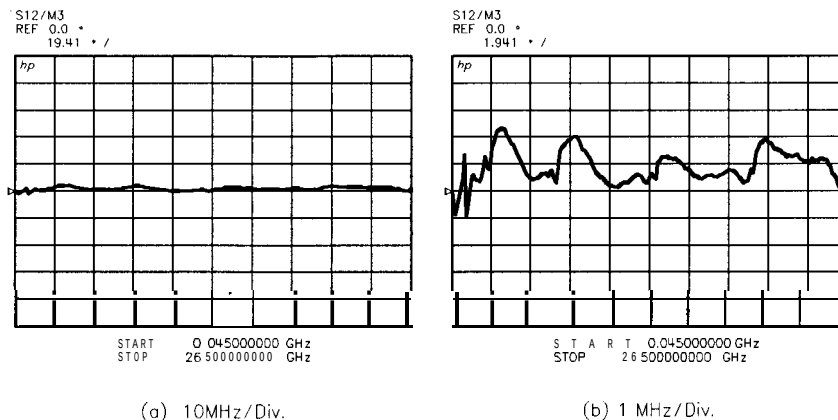

Figure 2-4. Bandswitch Transition Location
22. Figure 2-4 shows a typical response at two scale sensitivities. Locate the portion of the trace farthest from the center reference graticule. This is the worst-case swept frequency accuracy. Record this value in the performance test record at the end of this section. The scale is set in this procedure to 10 MHz per division. However, if this scale does not provide enough resolution you can change the sensitivity as follows: